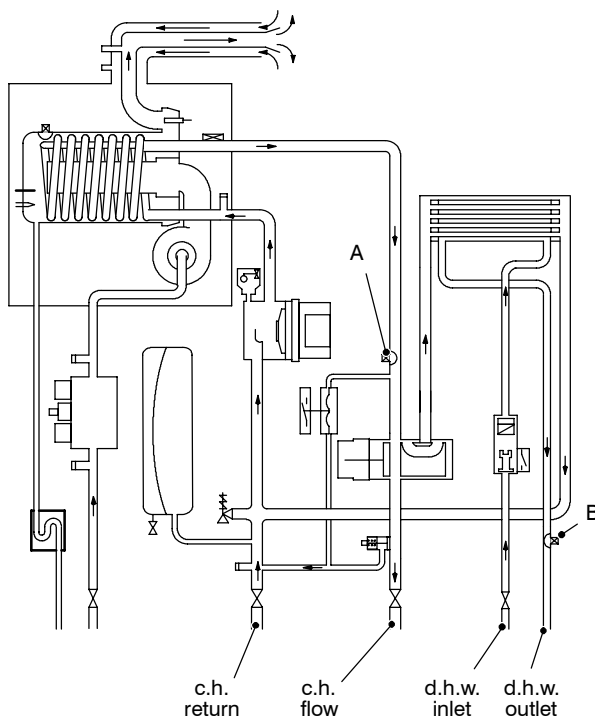
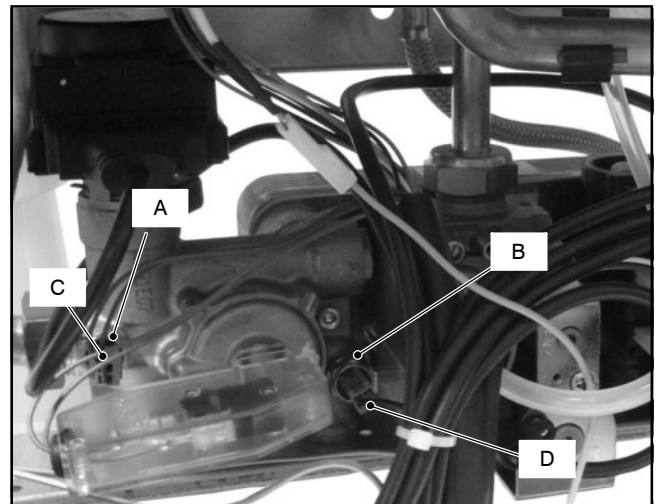

Fig. 15.2
Fig. 15.3
On the boiler there are two Temperature probes. One on the output of the primary condensing heat exchanger (c.h. Temperature probe) A in Fig. 15.2 and Fig. 15.3; one on the output of the d.h.w. heat exchanger (d.h.w. Temperature probe) B in Fig. 15.2 and Fig. 15.3.
- 3 Remove the electric connector C and unscrew the c.h. Temperature probe A – Fig. 15.3
- 3 Remove the electric connector D and unscrew the d.h.w. Temperature probe B – Fig. 15.3